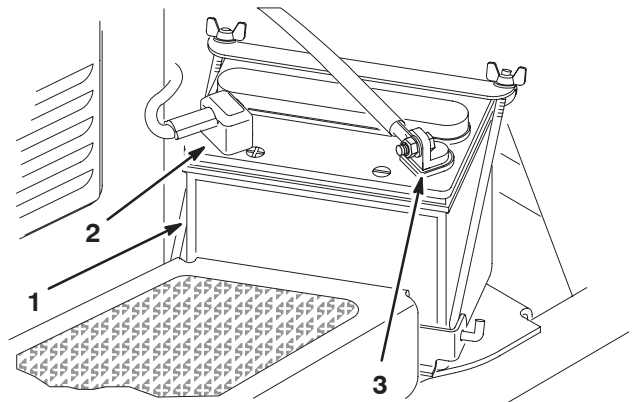

Figure 2
1. Set the battery in place, with the negative (–) terminal to the outside (Fig. 2).
3. Secure the negative cable (black) to the negative (–) terminal of the battery with a capscrew and locknut (Fig. 2).